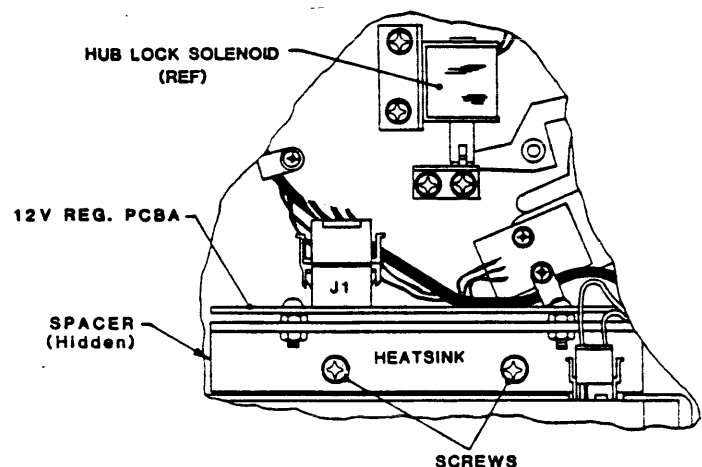

Figure 5-14. 12-VDC Regulator Power Supply
5.3.18 12-VDC REGULATOR ASSEMBLY (Fig. 5-14)